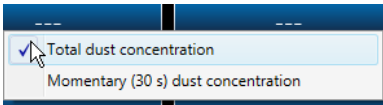

Fig. 4: Change measurement value display  $m_{ST}$
- To adjust the height and width of the software screen, click and hold down the left mouse button at the bottom right corner of the screen and drag the screen to the size you want (compare Fig. 4, Pos. 10).
It is possible to switch the graphic display to different channels during measurements to view a graphic of the different values currently being measured. To do so, click the corresponding blue numerical fields of the numerical display (compare Fig. 4, Position 1).